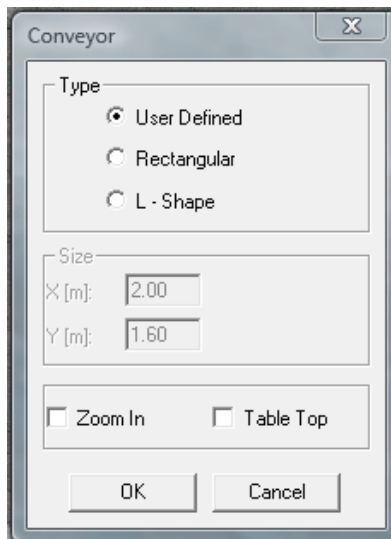

Figure 107: Conveyor Dialog Box
2. From the General tree, select Conveyor and then click OK. The Conveyor dialog box is displayed, as shown in Figure 107: Conveyor Dialog Box.
2. From the **General** tree, select **Conveyor** and then click **OK**. The Conveyor dialog box is displayed, as shown in Figure 107: Conveyor Dialog Box